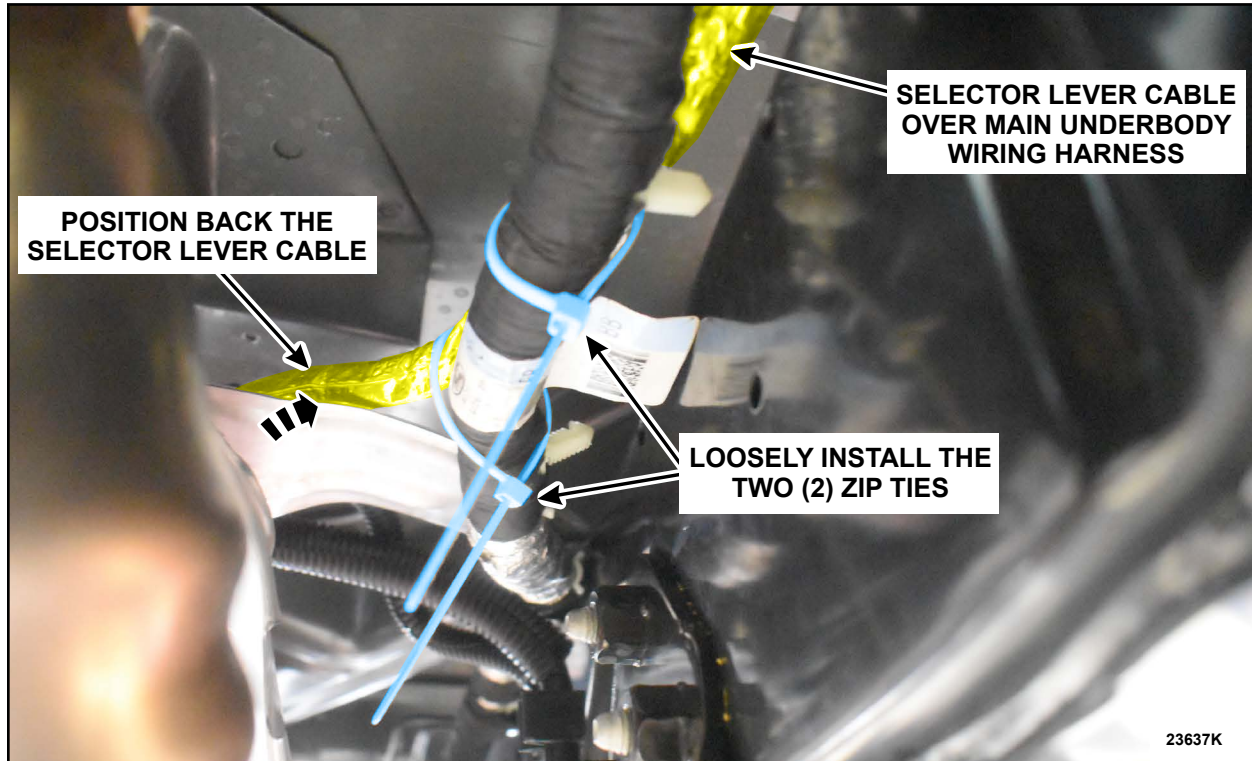

FIGURE 9
7. Position the selector lever cable back over the main underbody wiring harness and loosely install both *new* zip ties on either side of the part number tag. See Figure 9.